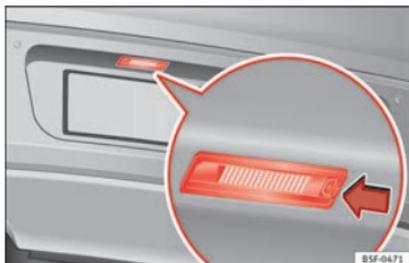

Fig. 223 In the rear bumper: number plate light.
1. Press the number plate light in the direction of the arrow **» Fig. 223**.